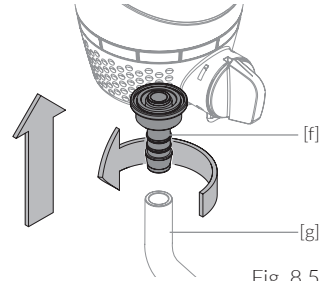

Fig. 8.5
- / Screw the hose nozzle [f] into the ball valve in the direction of the arrow until the disc surface of the hose nozzle [f] with the inserted O-ring lies flat against the cover (Fig. 8.5)